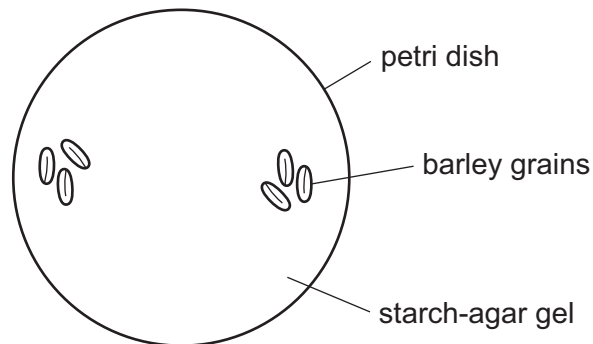

Fig. 1.1
- 1 You are provided with four Petri dishes, **A**, **B**, **C** and **D**, each set up as shown in Fig. 1.1. The dishes contain a starch-agar mixture. This is a gel to which starch solution has been added.